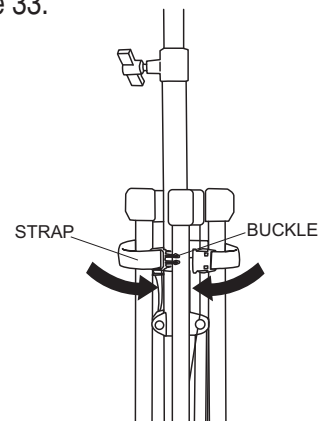

Figure 33. Locking Up Stowed Pentapod
10. Once pentapod legs are all in stow position, wrap strap around all five legs and secure by locking the buckle. See Figure 33.